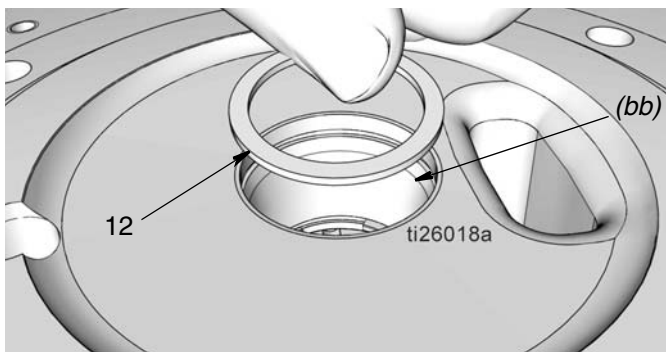

FIG. 34
- b. Verify retaining ring (51) is in place inside the pump base (1).
- c. Install spacer (12) shown in FIG. 34.